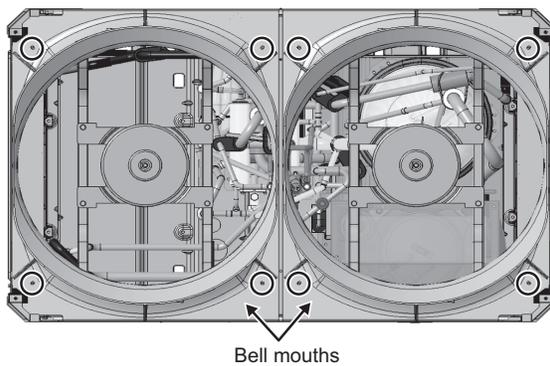

Fig. 36
- (8) Remove the bell mouth. (Eight screws: Fig. 36)